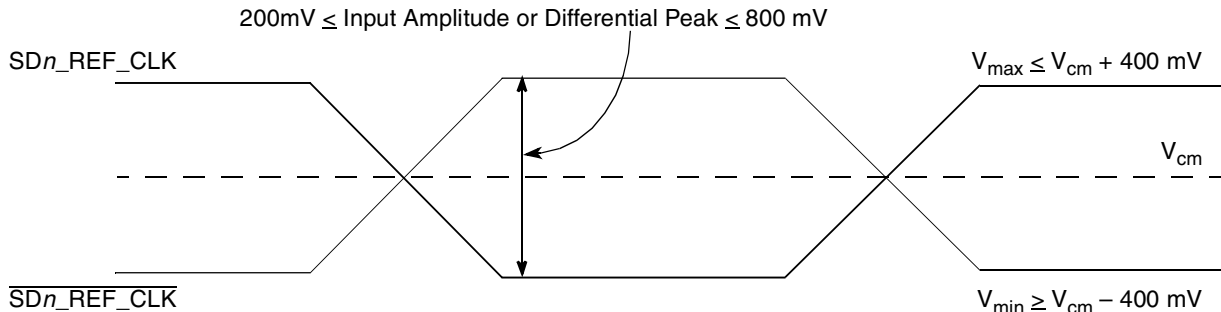

Figure 32. Differential Reference Clock Input DC Requirements (External AC-Coupled)
- For external AC-coupled connection, there is no common mode voltage requirement for the clock driver. Since the external AC-coupling capacitor blocks the DC level, the clock driver and the SerDes reference clock receiver operate in different command mode voltages. The SerDes reference clock receiver in this connection scheme has its common mode voltage set to SGND. Each signal wire of the differential inputs is allowed to swing below and above the command mode voltage (SGND). **Figure 32** shows the SerDes reference clock input requirement for AC-coupled connection scheme.